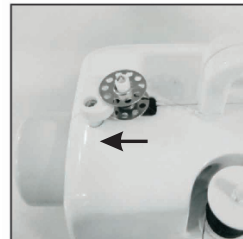

Fig.13
3. Put the bobbin on the bobbin winder pin, wind thread clockwise around bobbin several times. (Fig. 13)